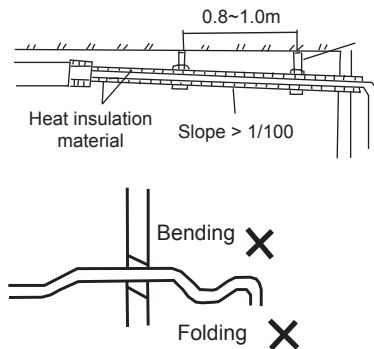

Figure 5.1
4. In order to prevent the back-flow of water into the interior of the air conditioner when the operation stops, the water discharge pipe should slope downwards towards the outside (drainage side) at a slope of more than 1/100. Make sure that the water discharge pipe does not swell or store water; otherwise, it will cause strange noises. See Figure 5.1.
5. When connecting the water discharge piping, do not use force to pull the pipes to prevent the water suction pipe connections from coming loose. At the same time, set a supporting point at every 0.8~1 m to prevent the water discharge pipes from bending. See Figure 5.1.